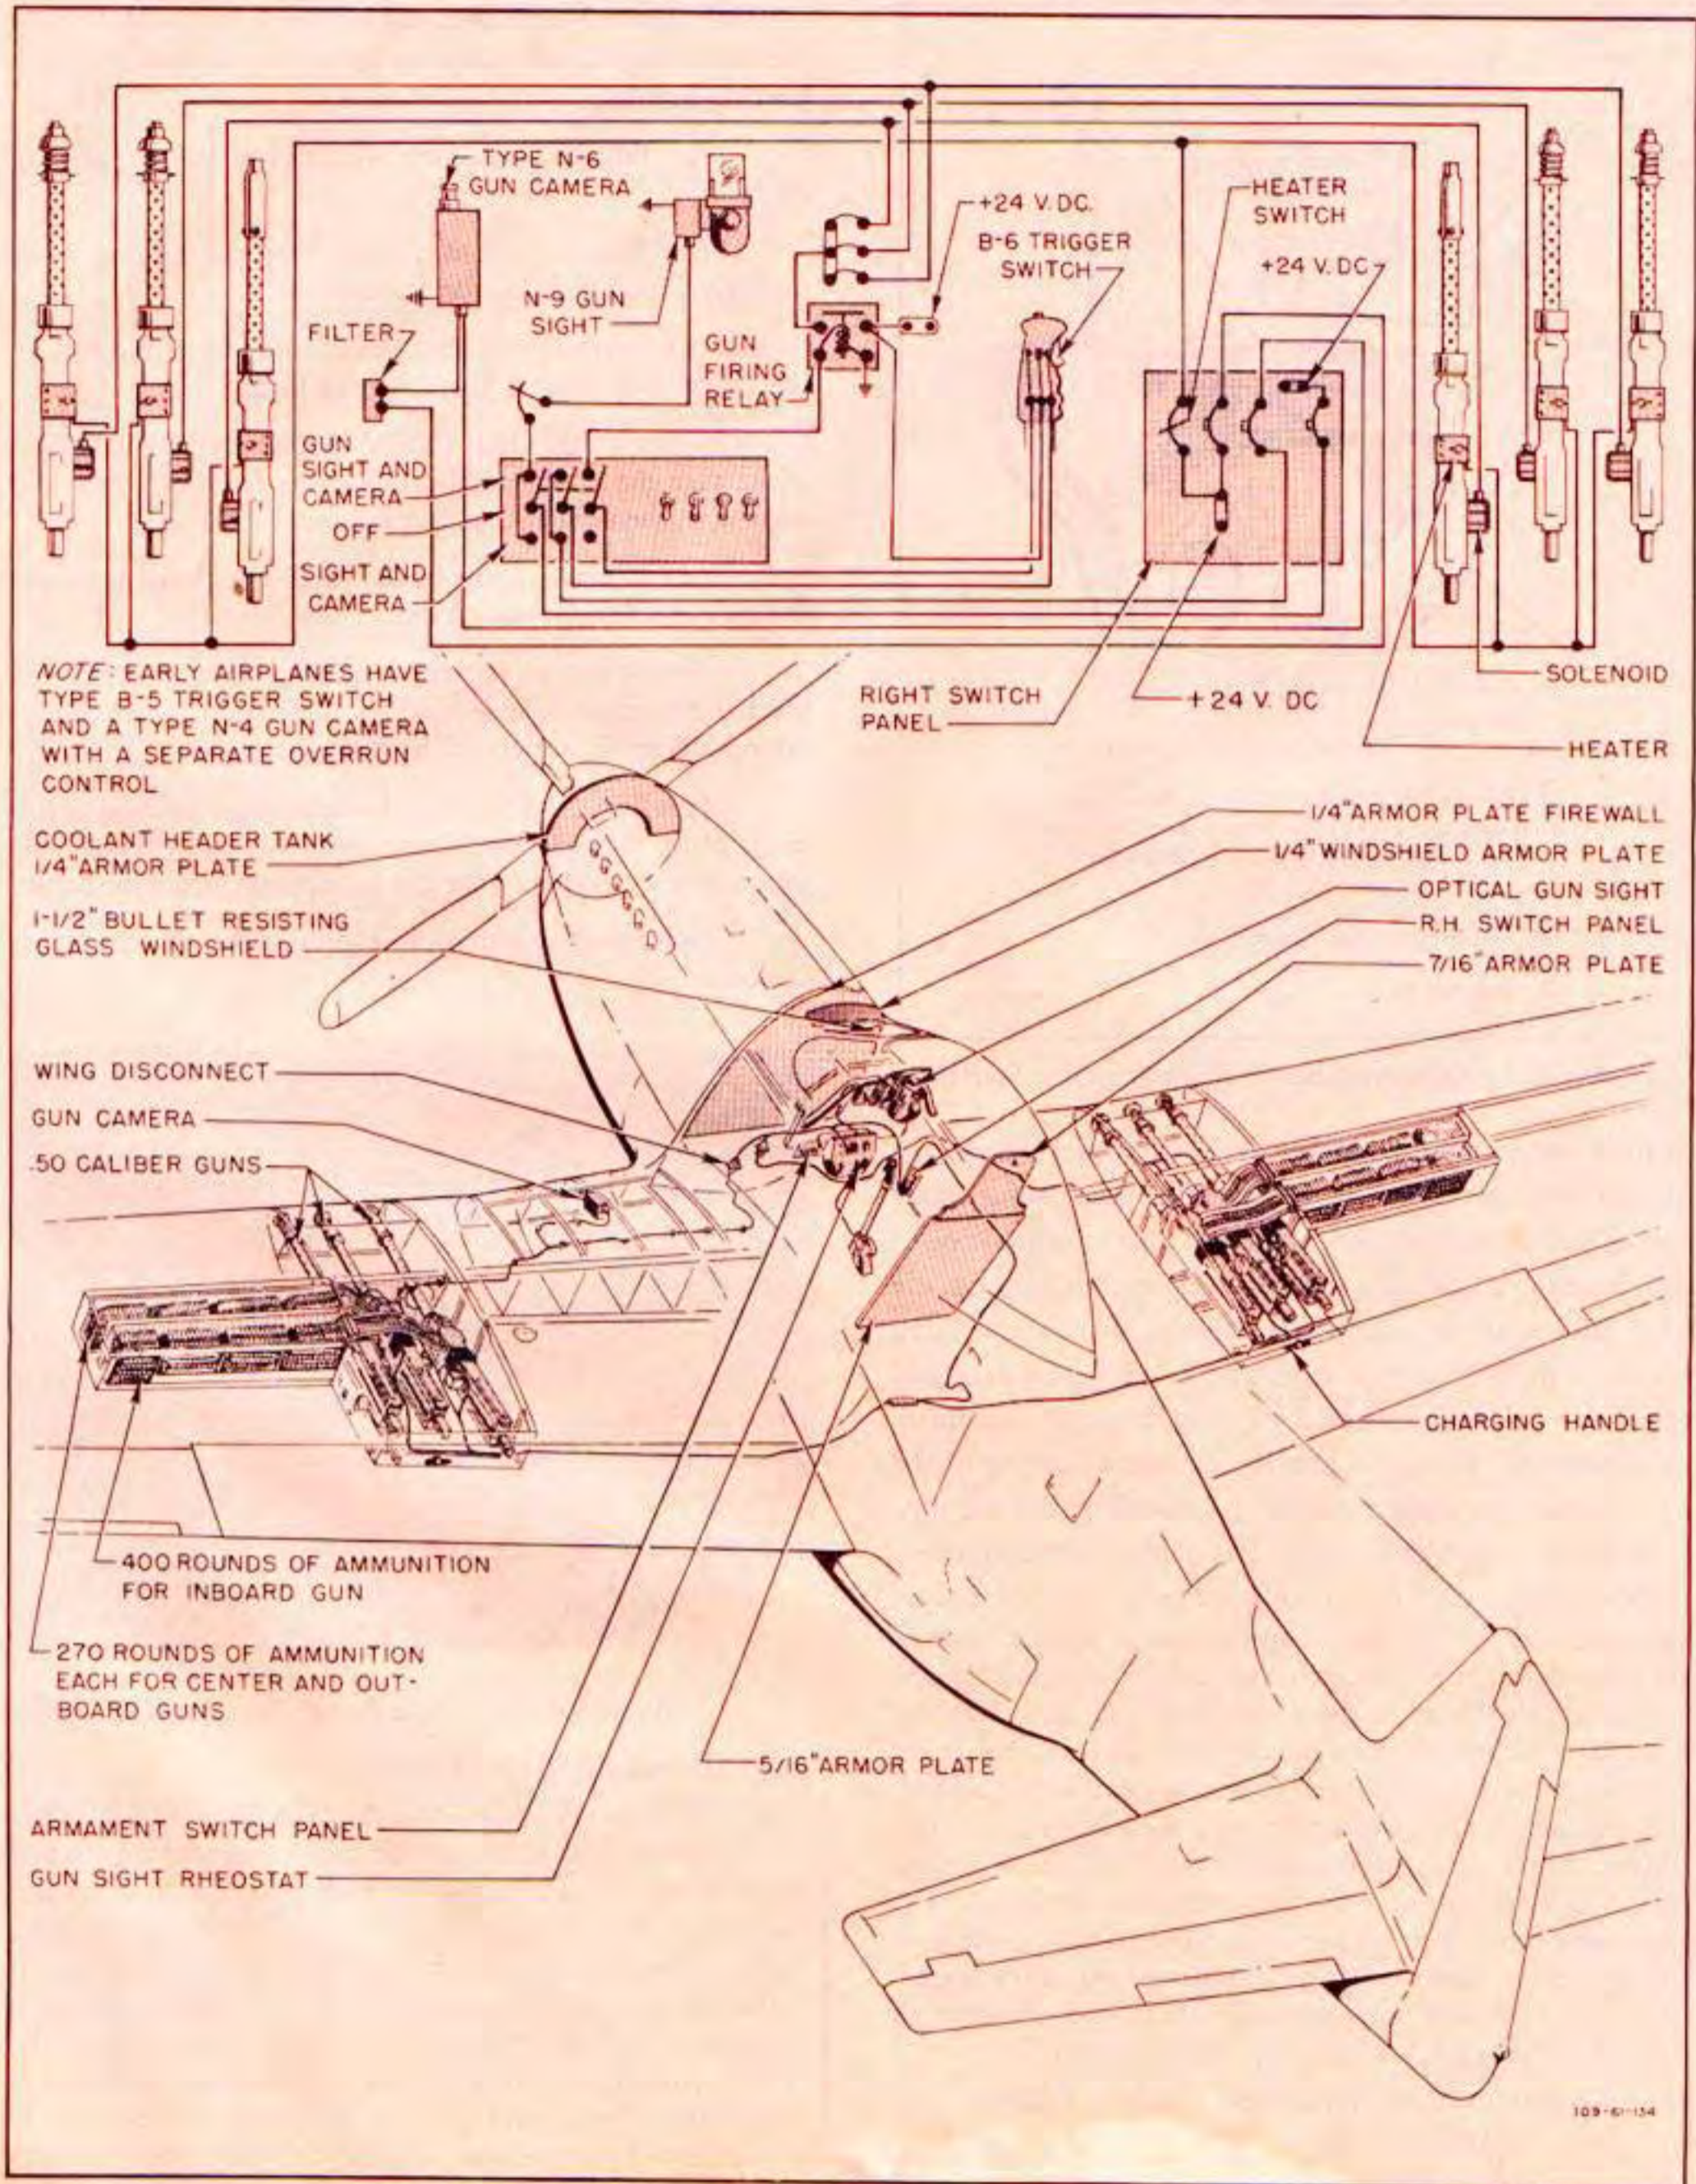

Figure 433—Gunnery Equipment
a. GENERAL DESCRIPTION. (See figure 433.)—Either of two gun installations may be used: a maximum load of three fixed .50-caliber guns in each wing, or an alternate installation of two guns in each wing. For maximum load, 500 rounds of ammunition are provided for the inboard guns (400 rounds on late airplanes) and 270 rounds for each center and outboard gun. For the alternate installation, the center guns are removed and each outboard gun then has 500 rounds. Later airplanes are equipped with removable zero rail rocket launchers under each wing; the launchers can support a total of 10 rockets. To accommodate either the auxiliary droppable fuel tank or the 500-pound bomb,